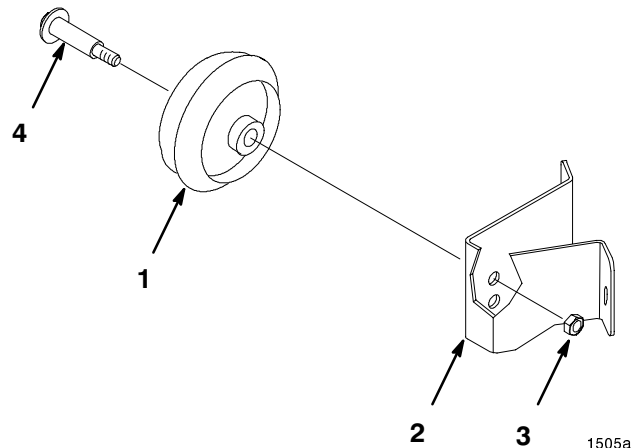

Figure 6
1. Mount the wheels onto the wheel brackets with wheel bolts and 3/8-16 lock nuts (Fig. 6). Use the same hole height on both sides; refer to adjusting mower wheels in the Operator's Manual.